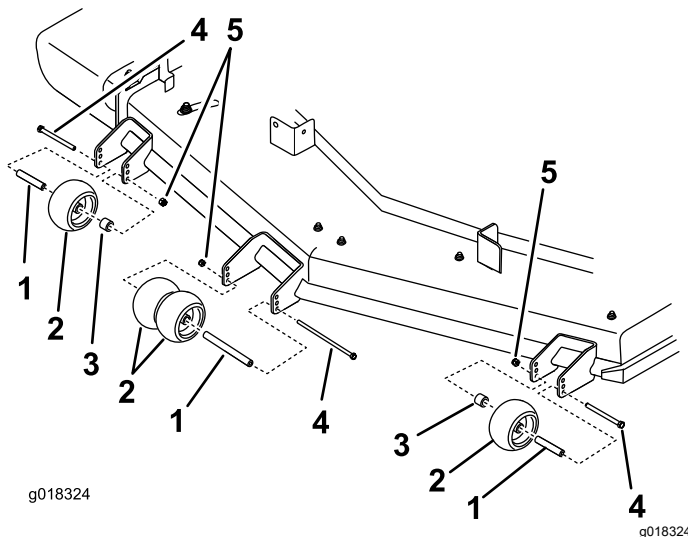

Figure 28
4. Ensure that the spacers and bushings are installed (Figure 28).